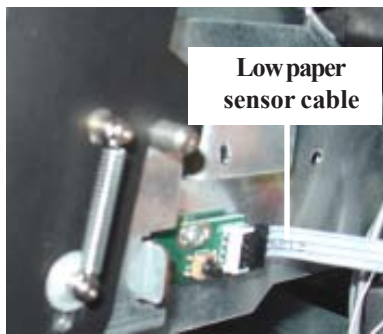

Figure 20. Low paper sensor cable.
- ➡ Connect the low paper sensor cable (Figure 20).